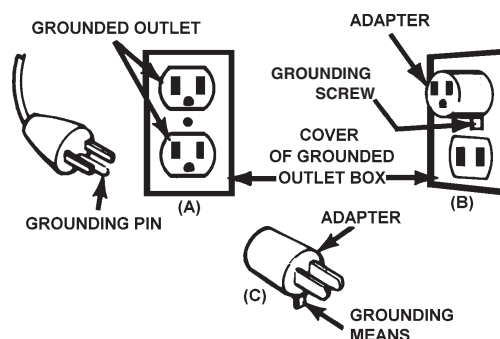

FIGURE 1 GROUNDING METHODS
Charger should be grounded to reduce the risk of electric shock. Charger is equipped with an electric cord having an equipment grounding conductor and a grounding plug. The plug must be plugged into an outlet that is properly installed and grounded in accordance with all local codes and ordinances. This battery charger is designed for use on a nominal 120 volt circuit and has a grounded plug that looks like the plug illustrated in FIGURE 1 (A). This plug should be used in a grounded outlet. The plug pins must fit the receptacle (outlet). ADAPTER: A temporary adapter, as shown in FIGURE 1 (B) and (C), may be used to connect the charger plug to a two pole receptacle (outlet), as shown in FIGURE 1 (B).